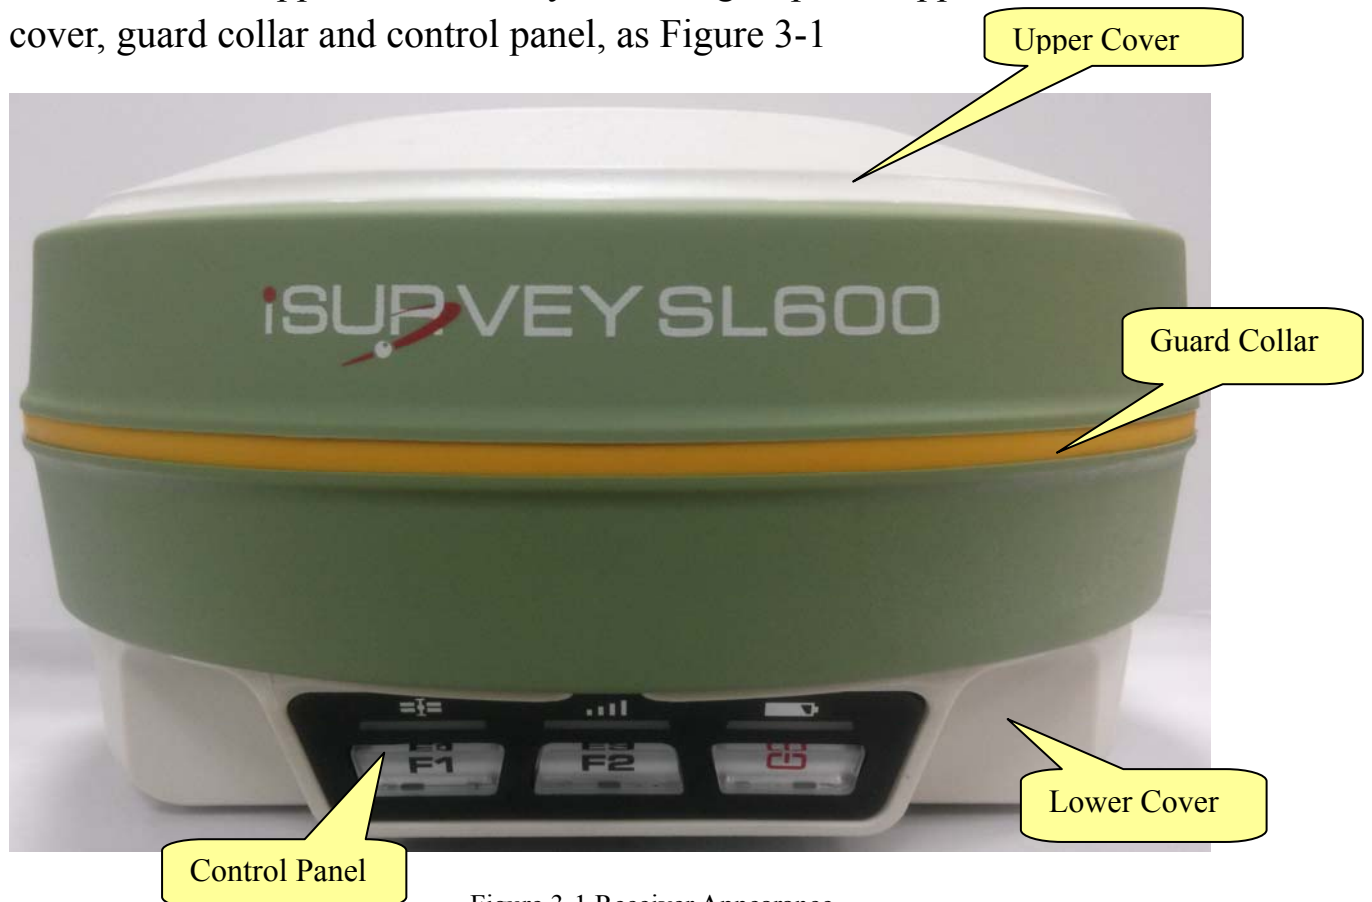

Figure 3-1 Receiver Appearance
Receiver Appearance mainly including 4 parts: upper cover, lower cover, guard collar and control panel, as Figure 3-1
Figure 3-1, in the middle of red frame of SL600 receiver is control panel. And the control panel contains the F1 key (function key 1), F2 key (function key 2) and the power button, 3 indicator leds which are respectively satellite led, the status led (dual-color led), the power led (dual-color led). The simple three buttons include all the features setting of the SL600 receiver.